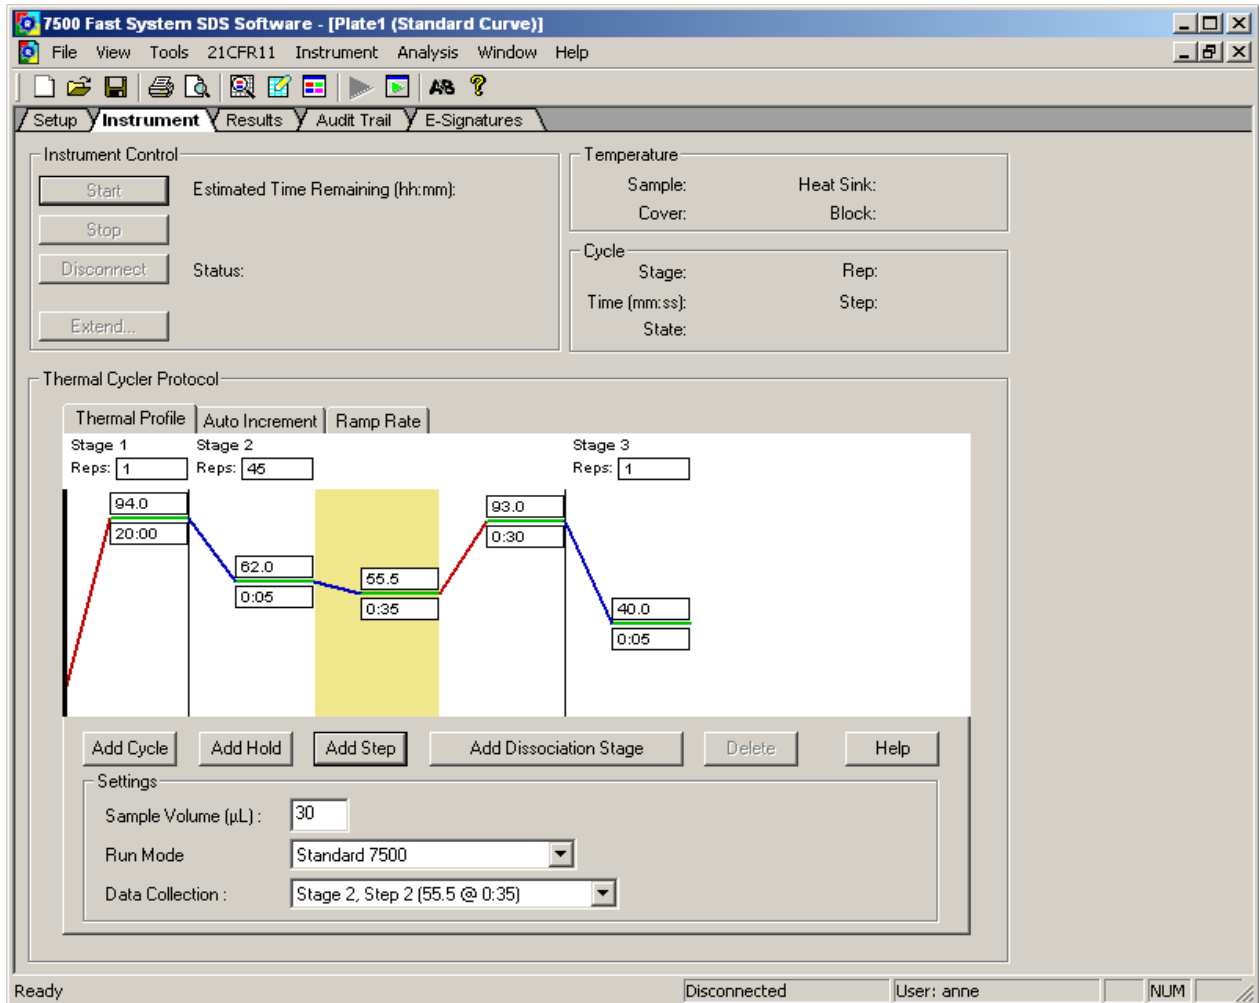

Figure 1: Screenshot after setting cycler program and detection mode.
- Check the Passive Reference setting to be “(none)” (see Figure 1).